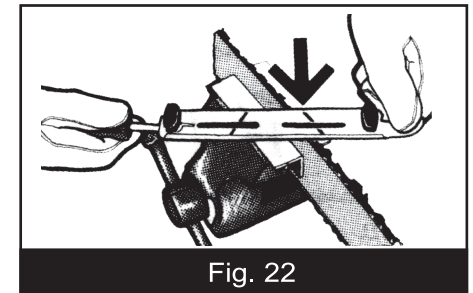

Fig. 22
3. Fasten the file to the file holder and place it on cutter at 35° angle (Fig. 22)